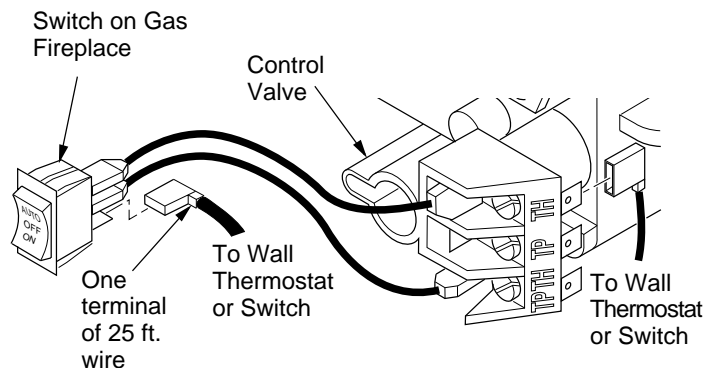

Figure 41 - Connecting Wire Terminals
1. Connect one terminal of 25 ft. wire to bottom contact of switch (see Figure 41).
2. Connect remaining wire terminal to the "TH" terminal on the control valve. Make sure that wire terminals are in the positions on your unit as pictured in Figure 41. If wires are not "crossed" the thermostat will not work.
1. Connect one terminal of 25 ft. wire to bottom contact of switch (see Figure 41, page 21).
2. Connect remaining wire terminal to the “TH” terminal on the control valve. Make sure that wire terminals are in the positions on your unit as pictured in Figure 41, page 21. If wires are not “crossed” the thermostat will not work.